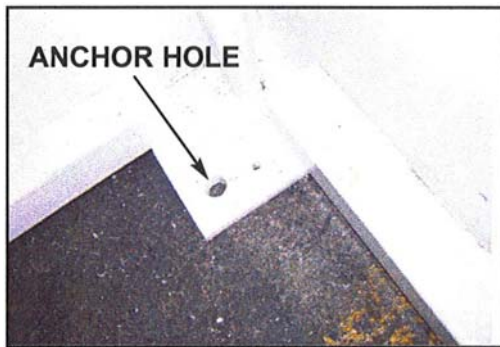

Figure 11
## Anchoring & Bracing - See Figures 11, 12, and page 5.
- Anchor four corners inside of lift using minimum or 3/8" diameter anchors in all four corners (inside lift under carriage). You may want to do this after carriage is raised to upper location. See Figure 11.